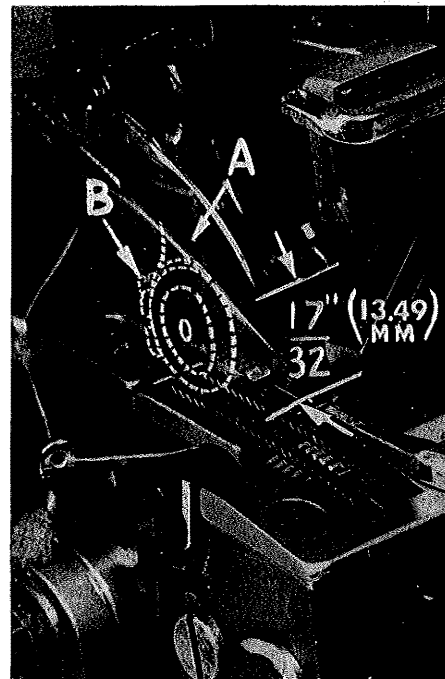

Fig. 4
With throat plate assembled in position, needle should center in the front end of needle slot. When needle is at high position, needle point should be set $\frac{17}{32}$ inch (13.49 mm) above throat plate (Fig. 4), for Styles 39500 QG, RN and SD. This dimension should be $\frac{1}{2}$ inch (12.70 mm) for Style 39500 TC. To align needle or set the height above throat plate, move needle driving arm (A, Fig. 4) by loosening clamp screw (B). Remove throat plate, after needle has been set properly and clamp screw (B) has been tightened.